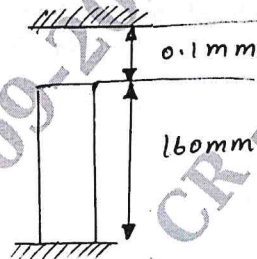

Fig.Q2(b) (10 Marks)
- b. A copper bar of length 160 mm is placed on a rigid support in vertical position. Clearance between the upper support and top surface of the member is 0.1 mm as shown in the Fig.Q2(b). Determine: